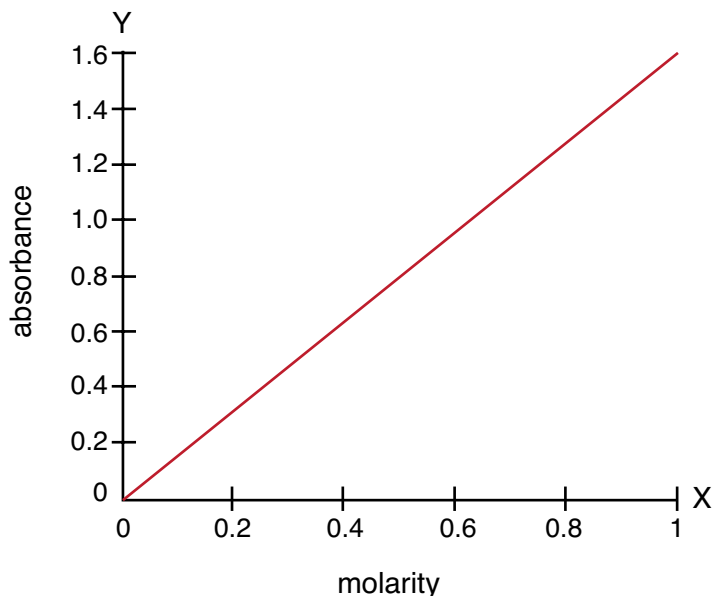

Figure 5
4. Graphs should have molarity on the X-axis and absorbance on the Y-axis. They should show a positive correlation between the two measurements similar to the one in Figure 5.